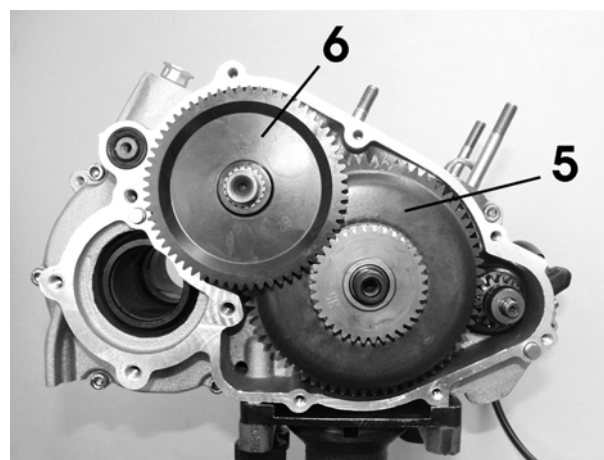

Fig. 17
➔ Remove the primary drive gear (pos. 5) (screwed to clutch drum) and secondary gear (pos. 6) and fit the gear pair of your choice. (Fig. 17)